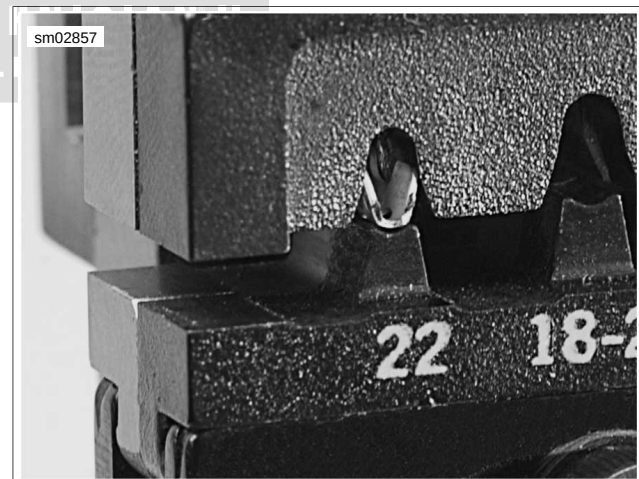

Figure A-33. Crimp Tails in Vertical Alignment between Punch and Die
2. See Figure A-33. Ratchet the handles together until the crimp tails are held in vertical alignment between the punch and the die.